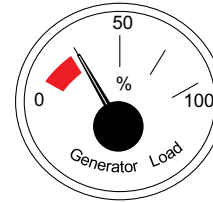

Figure 52. Generator Load Gauge
10. The **generator load gauge** (Figure 52) indicates the generator load rate. It is recommended the load be above the red area (20%) for maintaining sufficient exhaust temperature.